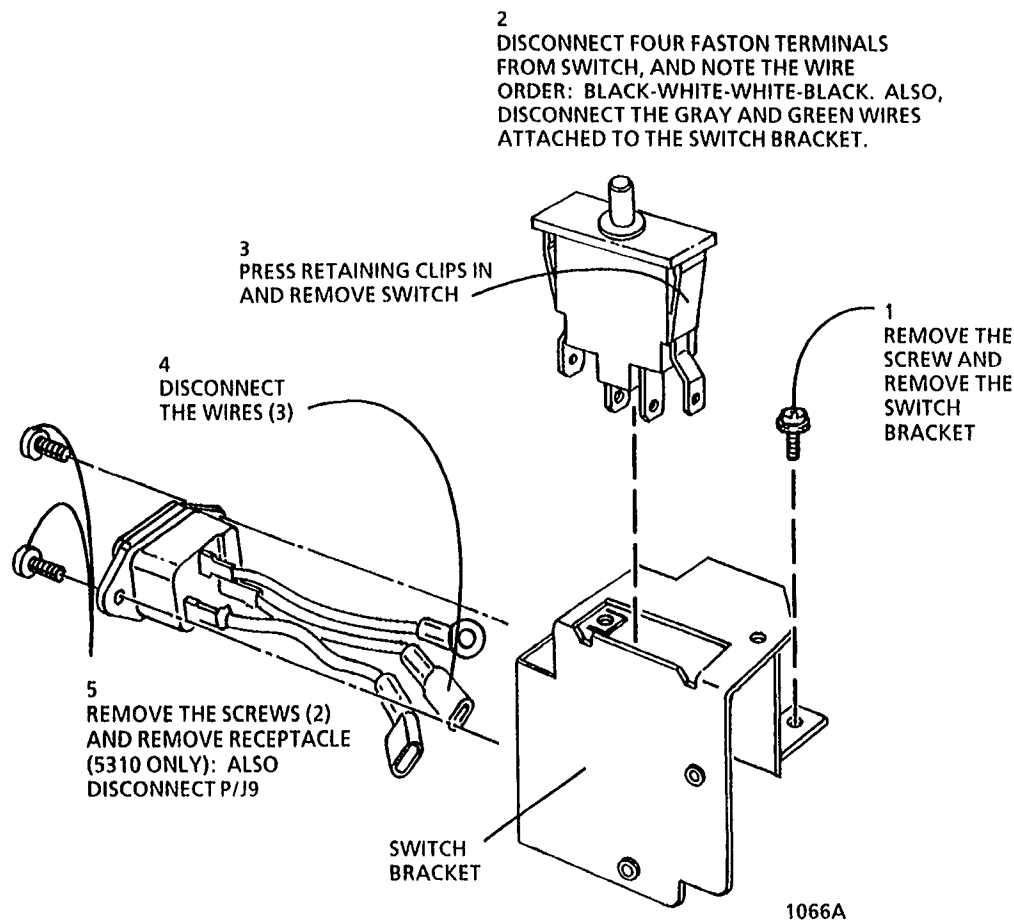

Figure 2. Removing the Power On-Off Switch/Interlock or the Power Receptacle
3. (Figure 2): Remove the Switch Bracket.